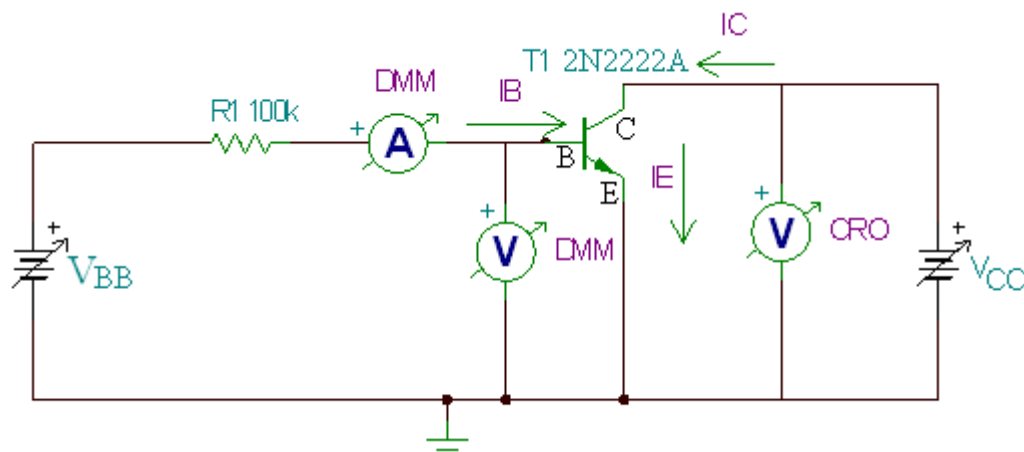

Fig 6.1 Circuit for Common Emitter Input Characteristics
3. Connect the circuit in fig 6.1